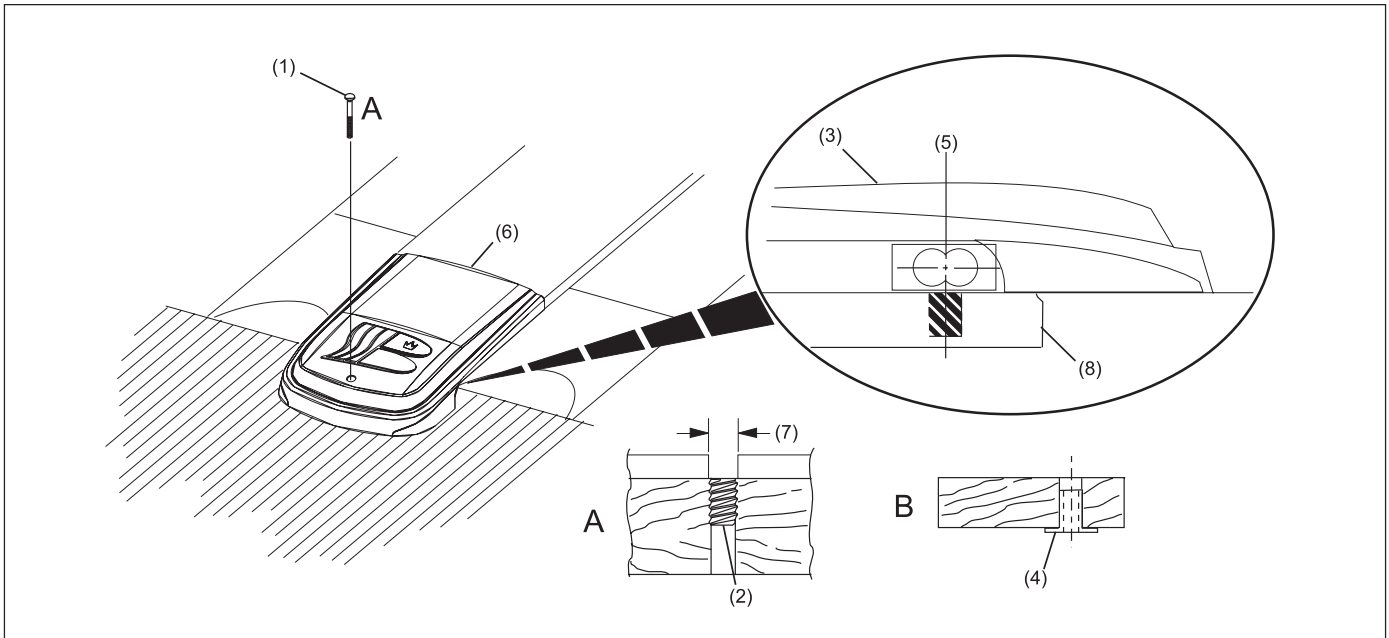

Figure 11.
- Position the cover over the unit and trim the gutter and capping for a smooth fit and a clear opening for the optical beam to the reflector. Openings in the side of the cover should be centered on the optical sensors. Mark the mounting hole locations using the cover as a template. Drill a 1/2" diameter hole in the approach and install a Tap-Loc insert. Install a T-nut in the mounting plate. Install the cover using the hardware shown in *Figure 11*.